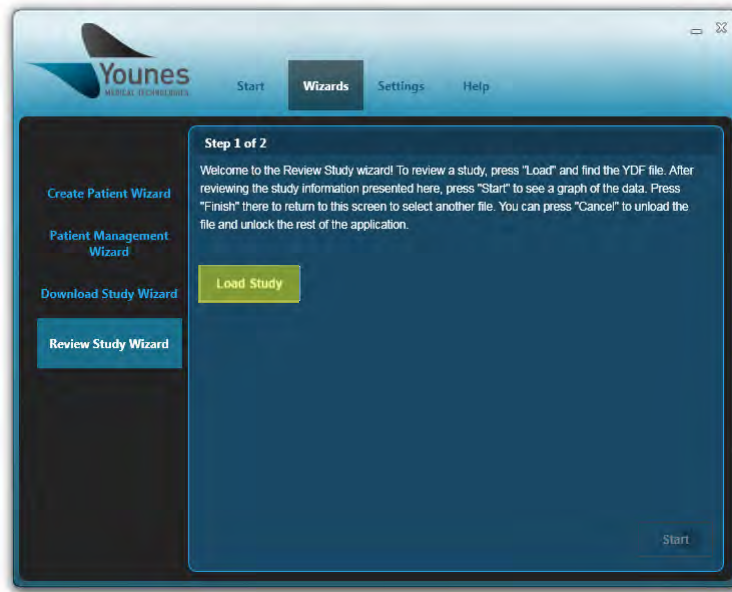

Figure 92 – Windows PC Prodigy Application “Load Study” Button Highlighted (Review Study Wizard)
2. Read the information provided on the screen, then select the “Load Study” button highlighted in Figure 92.